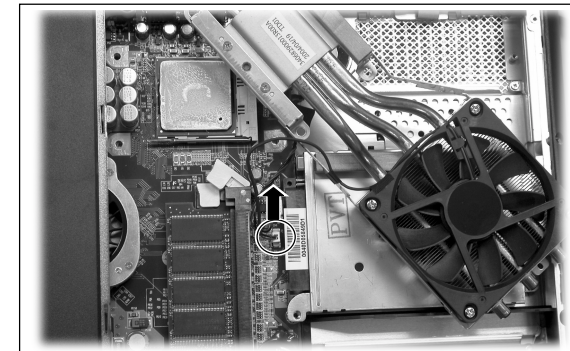

Figure 2-6 Disconnect the cable
3. Disconnect the fan's power cord from system board. (Figure 2-6)